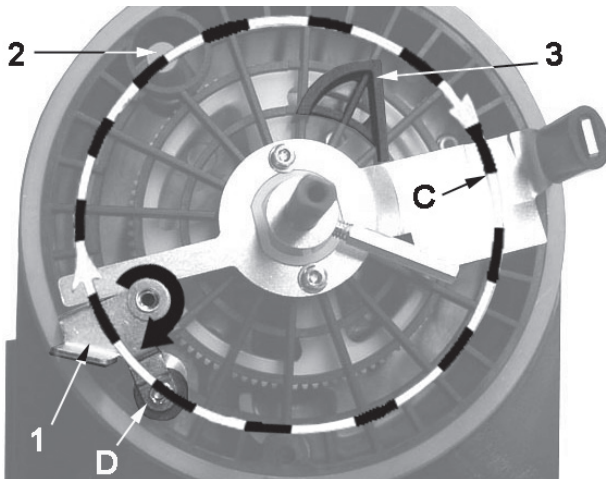

Figure 16 Switching parts of the low-level control for grease (when the reservoir is empty).
- Magnet and low-level switch (2) (fig. 16) are not aligned and switch can not be activated.
### Grease Reservoir Empty - Fig. 16